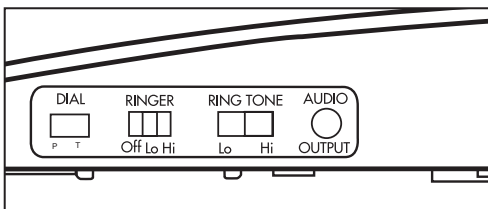

Figure 12 - Ringer Volume & Pitch
1. You can adjust the **RINGER VOLUME** as high as 75 decibels. The settings available are **OFF**, **LO** and **HI** as shown in Figure 12.